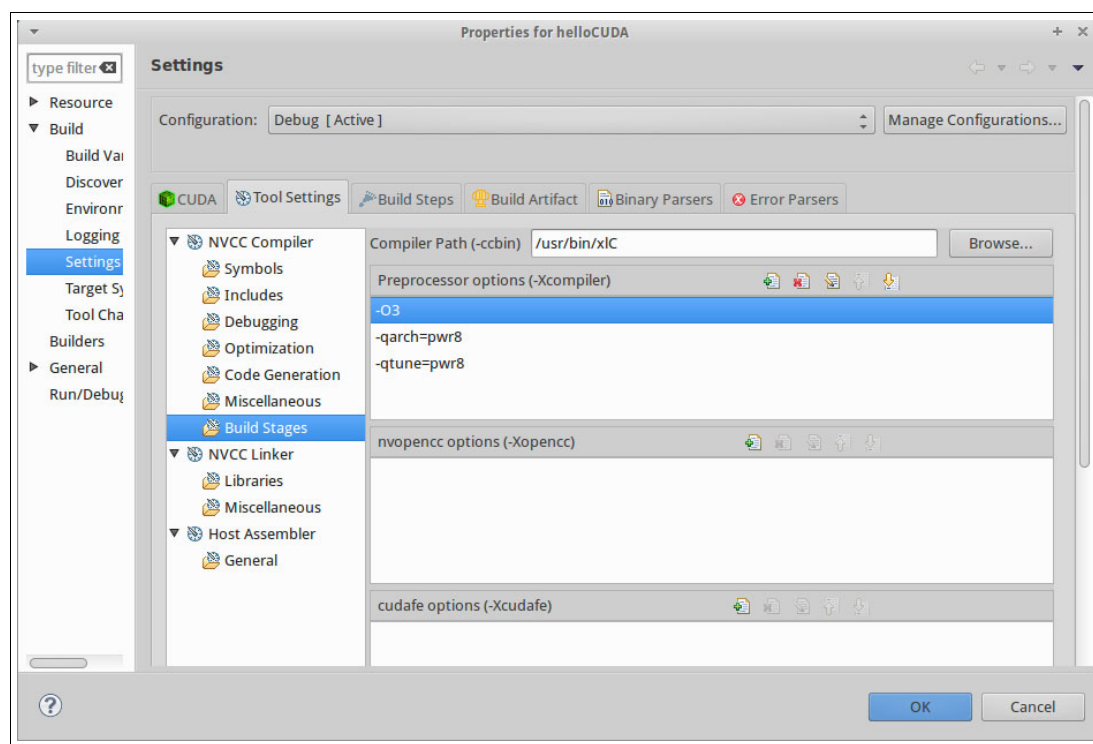

Figure 15 Building settings for NVCC stages
2. On the left side panel, expand the **NVCC Compiler** and click **Build Stages**. Some of the properties for controlling the nvcc build stages are shown in Figure 15.
Figure 15 shows the configuration for setting the **x1C** back-end compiler, as well as for passing flags **-O3**, **-qarch=pwr8**, and **-qtune=pwr8** (see the **Preprocessor** options field in the figure).